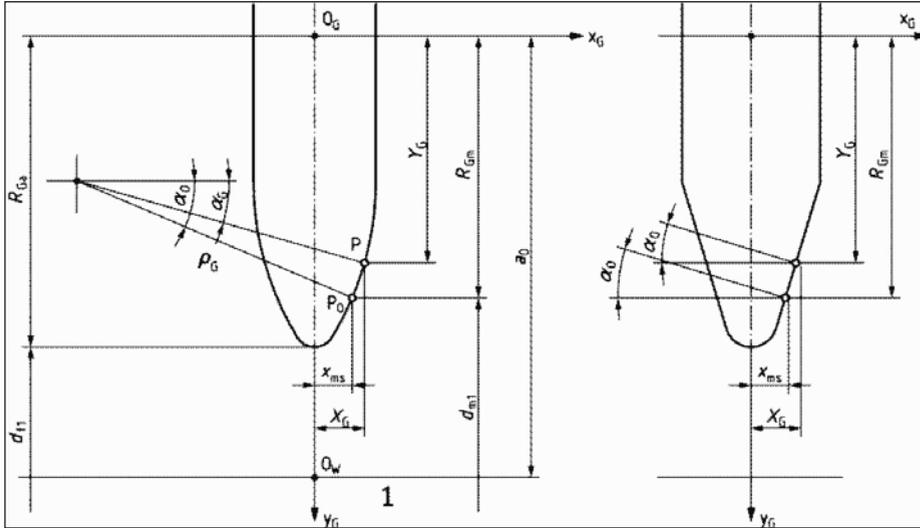

Figure 4 C and K profiles grinding wheel parameters.
- b. Equations for profiles generated by a profiled disk grinding wheel, as for K and C profiles (Fig. 4): Each profile is accessible by the equation of the grinding wheel profile. The main parameter of those profiles is the radius of the axial profile of the grinding wheel. There is not a direct relation to obtain the axial profile of the worm.